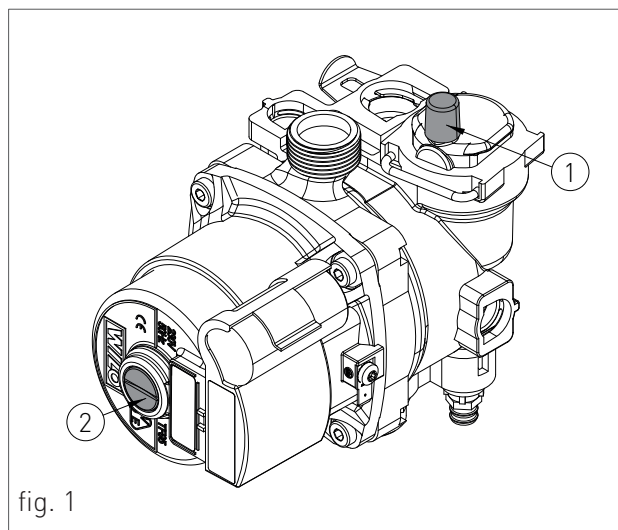

fig. 1
2. slightly loosen the cap of the circulator auto air vent (1-fig. 1) to release the air from the system;
8. Unscrew the circulator cap (2-fig.1) to release any air bubbles and close it to prevent water leakage;